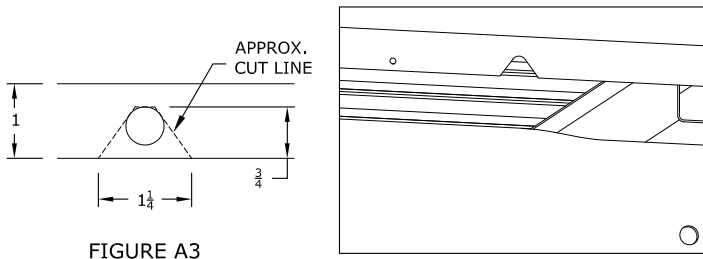

FIGURE A3
8. **Modify bed flange.** Cut a notch in the bed flange just above the frame in the passenger side rear wheel. Locate the 7/16" hole in this flange above the axle and enlarge the hole by removing the metal below the hole so that a notch is created, See figure A3 & A4. This will allow the rear cross member to be installed.